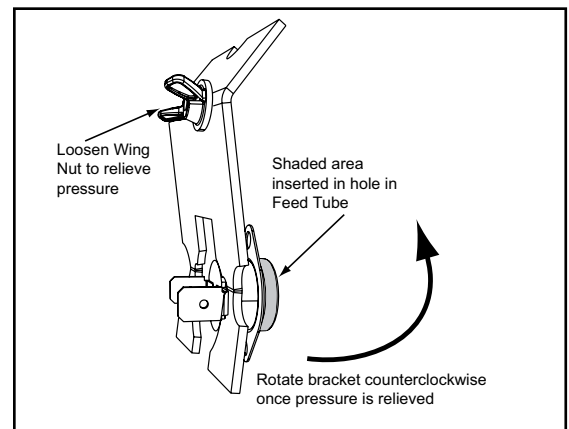

Figure 34.3
- j. Loosen wing nut to relieve the pressure on snap disc from the bracket. The shaded area of the snap disc is inserted into a hole in the feed tube. **NOTE:** You may need pliers to start the wing nut. **Figure 34.3.**